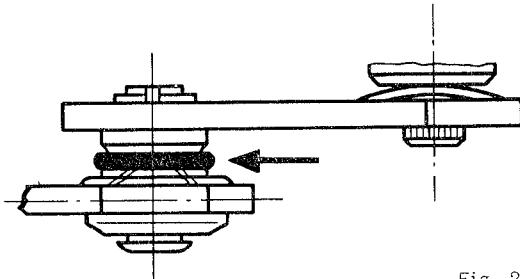

Fig. 2
2. A rubber spacer washer (spare part No. 999 704 122 50) must be installed between the crank of the windshield wiper arm bearing and the joint bar, see Fig. 2.